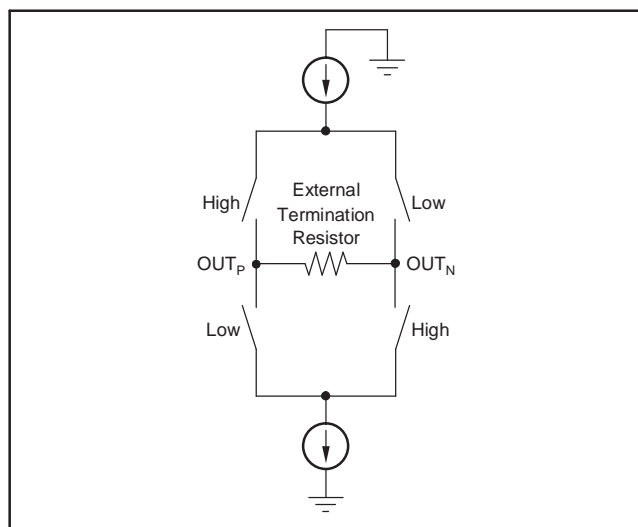

Figure 16. LVDS Buffer
The LVDS buffer has two current sources, as shown in Figure 16. OUT_P and OUT_N are loaded externally by a resistive load that is ideally about 100 Ω . Depending on whether the data is 0 or 1, the currents are directed in one direction or the other through the resistor. The LVDS buffer has four current settings. The default current setting is 3.5mA, and provides a differential drop of about ± 350 mV across the 100 Ω resistor.
- Changed Figure 16. 18